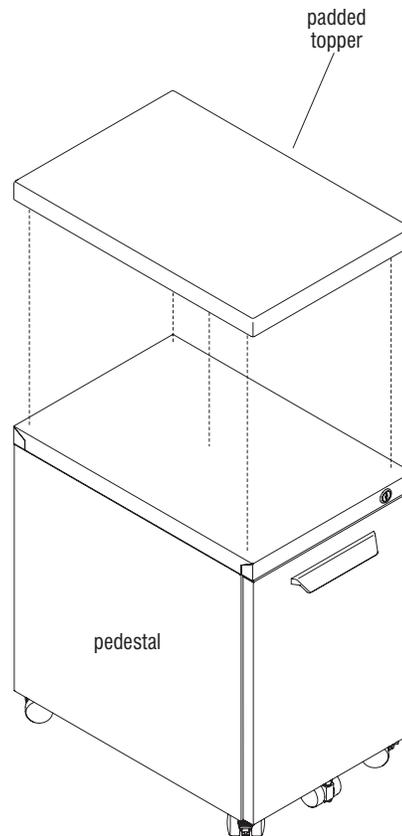

Figure 2
1. Place the padded topper on top of the corresponding unit. The anti-skid rubber strips located on the bottom of the topper keeps sliding of the topper to a minimum (Figure 2).